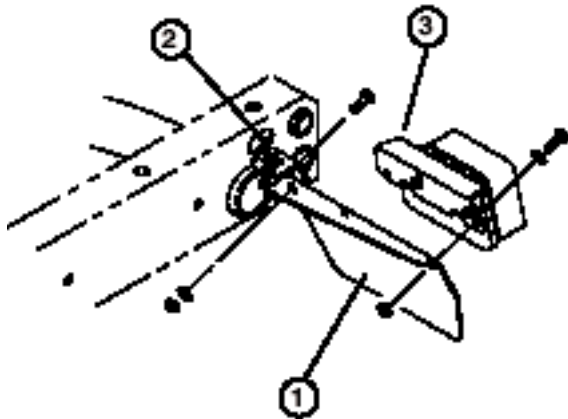

Figure 1
Install Rear Fenders (Fig. 1–2)
3. Secure rear of each tail light plate to rear of frame brackets with a $\frac{5}{16}$ -18 x 1" lg. capscrew, .344" I. D. flatwasher and nut, as shown in figure 1.
4. On left side, remove (2) capscrews, washers and nuts securing tail light mounting bracket to tail light plate.